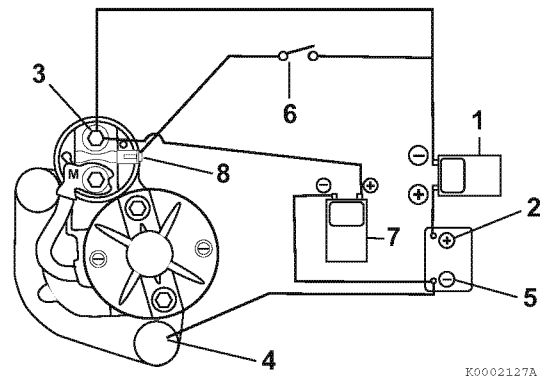

Figure 11-35
- Connect an ammeter (Figure 11-35, (1)) in series between the battery positive (+) terminal (Figure 11-35, (2)) and the main positive (+) terminal (Figure 11-35, (3)) on the starter motor.
- Connect a wire lead between the mounting base of the starter motor (Figure 11-35, (4)) and the battery negative terminal (Figure 11-35, (5)).
- Connect a voltmeter (Figure 11-35, (7)) to the battery negative (-) terminal (Figure 11-35, (5)) and the main positive (+) battery terminal (Figure 11-35, (3)) on the starter motor.
- Install a switch (Figure 11-35, (6)) in a circuit between the battery positive (+) terminal (Figure 11-35, (2)) and the starter magnetic switch (solenoid) terminal (Figure 11-35, (8)) on the starter motor.